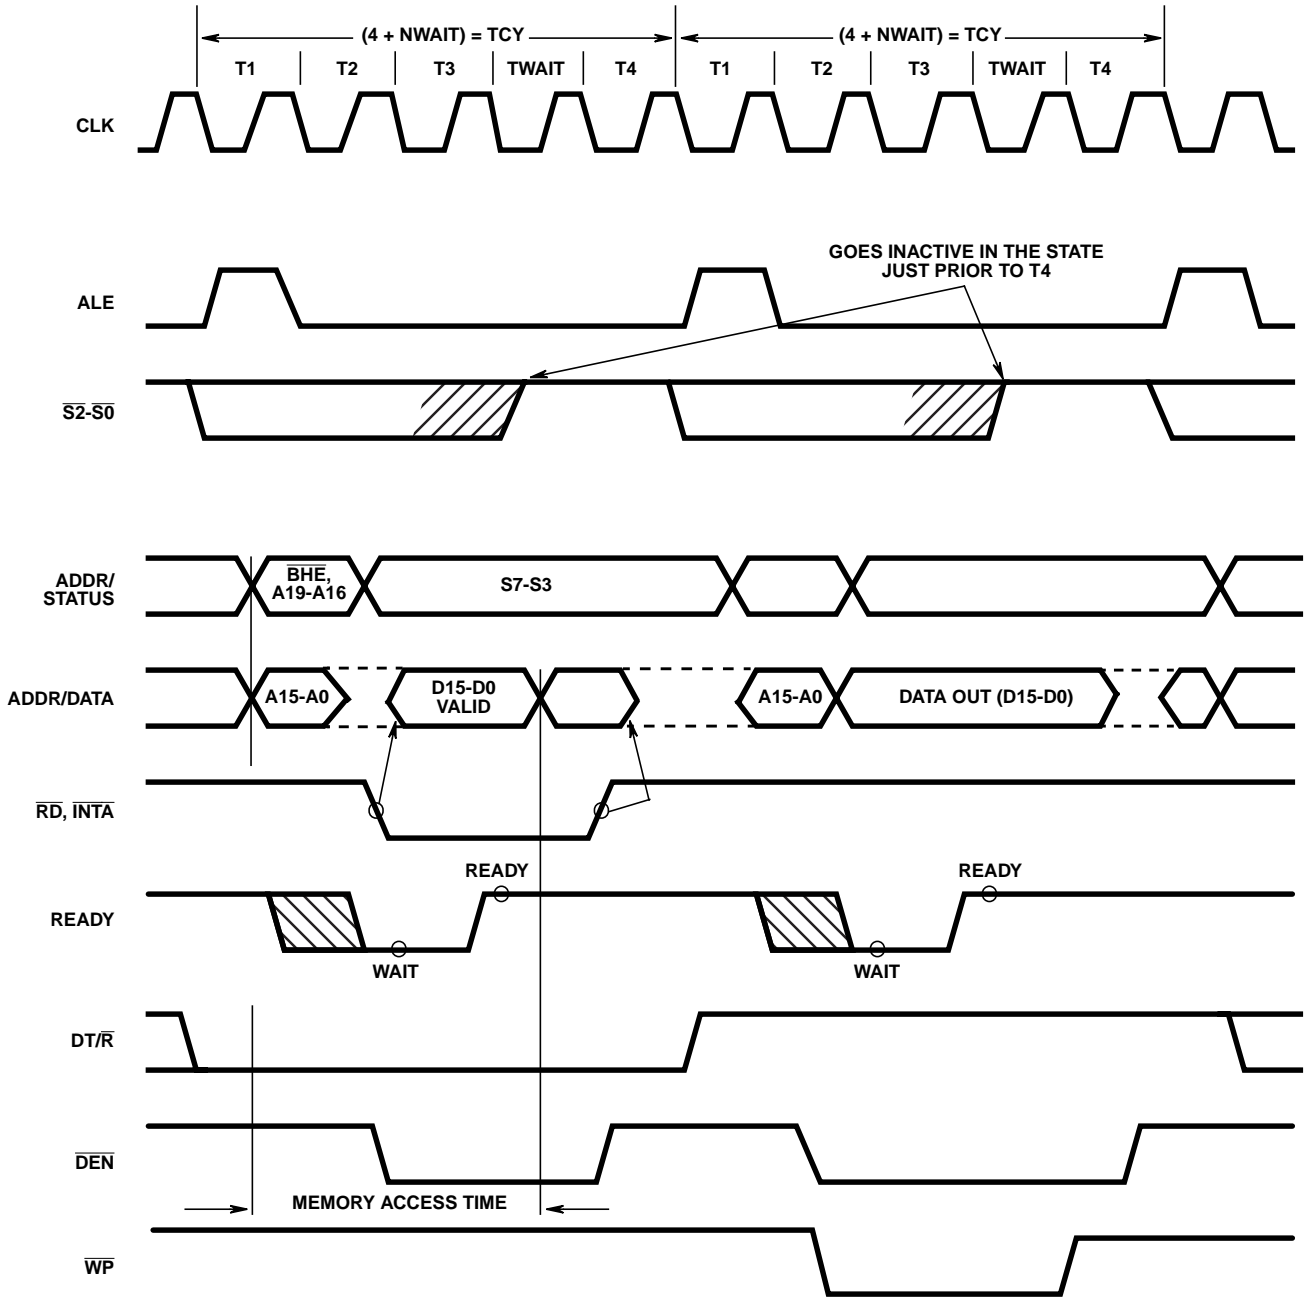

FIGURE 3. BASIC SYSTEM TIMING
Each processor bus cycle consists of at least four CLK cycles. These are referred to as T1, T2, T3 and T4 (see Figure 3). The address is emitted from the processor during T1 and data transfer occurs on the bus during T3 and T4. T2 is used primarily for changing the direction of the bus during read operations. In the event that a "NOT READY" indication is given by the addressed device, "Wait" states (TW) are inserted between T3 and T4. Each inserted wait state is the same duration as a CLK cycle. Idle periods occur between HS-80C86RH driven bus cycles whenever the processor performs internal processing.
Typical system configurations for the processor operating in minimum mode and in maximum mode are shown in Figures 6A and 6B, respectively. In minimum mode, the MN/MX pin is strapped to VDD and the processor emits bus control signals (e.g.  $\overline{\text{RD}}$ ,  $\overline{\text{WR}}$ , etc.) directly. In maximum mode, the MN/MX pin is strapped to GND and the processor emits coded status information which the 82C88 bus controller used to generate MULTIBUS™ compatible bus control signals. Figure 3 shows the signal timing relationships.